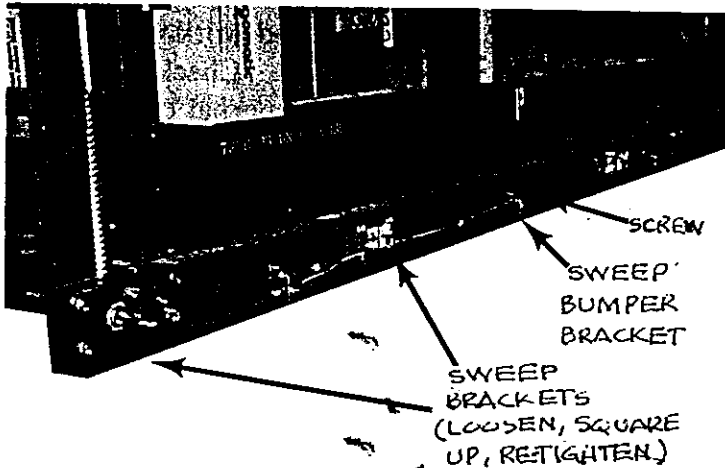

Figure 4.1.
STEP 4.1: Check floor sweeps on both sides for foreign objects (i.e. ladders, boxes, etc.). If clear, lift floor sweep to see if red light goes off. Adjust sweep brackets. Pry sweep bumper bracket out so that sweep switches clear sweep, re-tighten sweep bumper bracket mounting screw. See Figure 4.1. If this is not the cause, go to STEP 4.2.